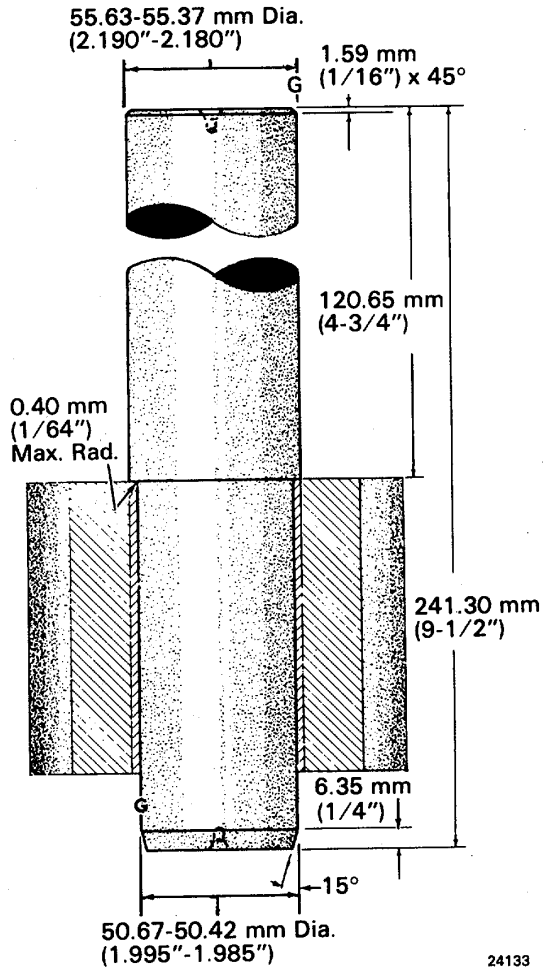

Fig. 9-14 - Oil Pump Driven Gear Bushing Tool
4. Driven gear bushing installation and removal tool construction and application is shown in Fig. 9-14